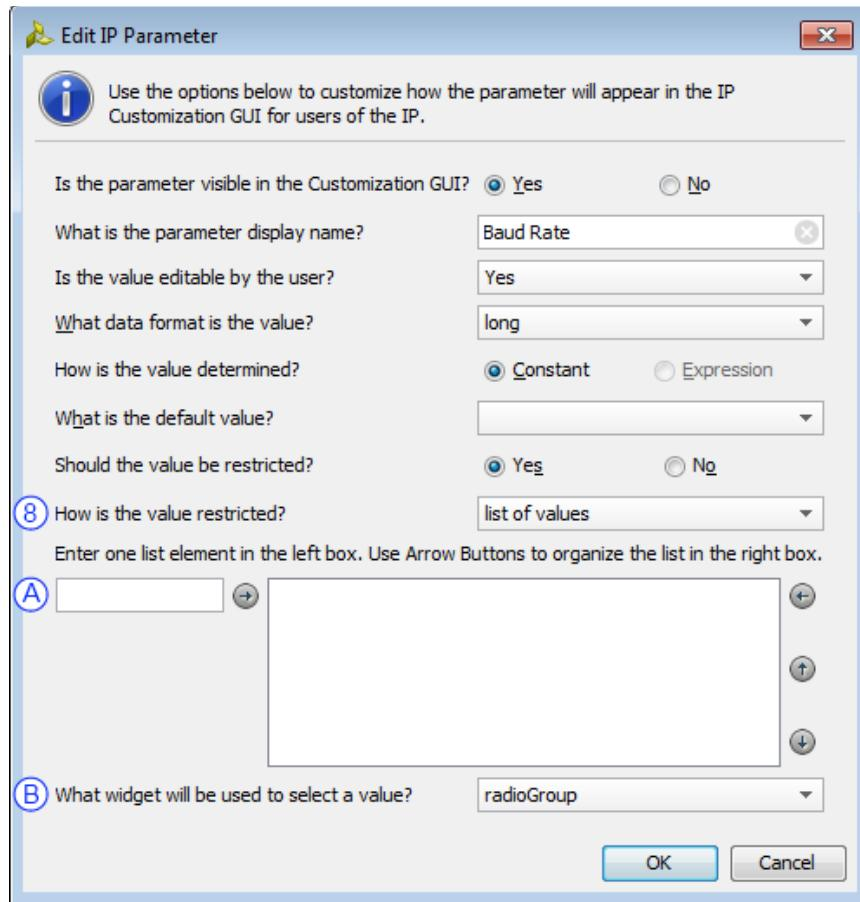

Figure 8-37: Edit IP Parameter Dialog Box with List of Value Restrictions
- When the selection is Yes, the dialog box adds additional options on how to restrict the value, (Figure 8-37, page 104). The initial selection for the restriction is set to a list of values.